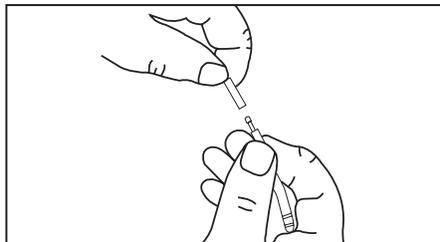

Figure 4. Insertion of Band Tubing End Plug
8. Insert the end plug into the tubing end until the stainless steel tubing connector disappears into the open end of the band fill tube – this will facilitate pulling the tube around the stomach (Figure 4). The tubing can be slippery. Using 4x4 gauze sponges will help grasp the tubing.